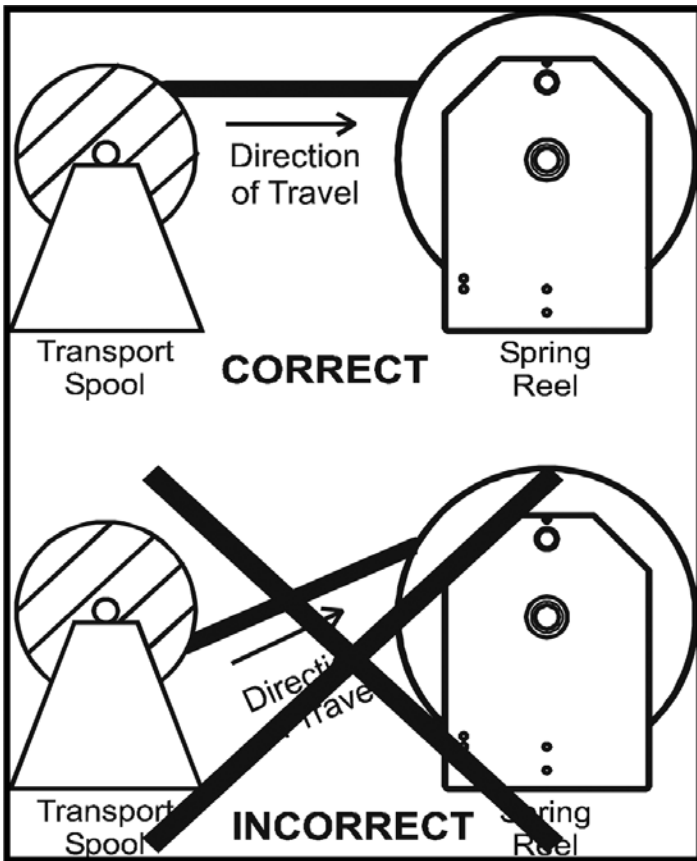

Figure 1
2.5.1 Either of two methods for installing cable on the reel may be used. The first method is to simply lay the cable out straight along the path of travel and wrap onto the reel. The second method requires using a support for the cable being wrapped (see Fig. 1, Page 9). In either method, it is important that the cable not twist or loop.